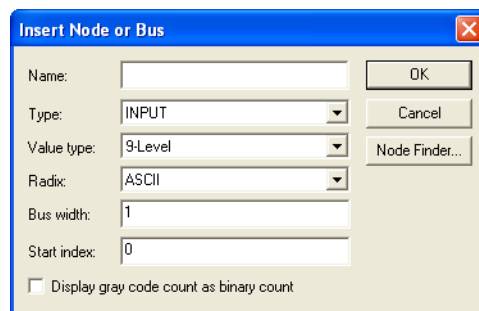
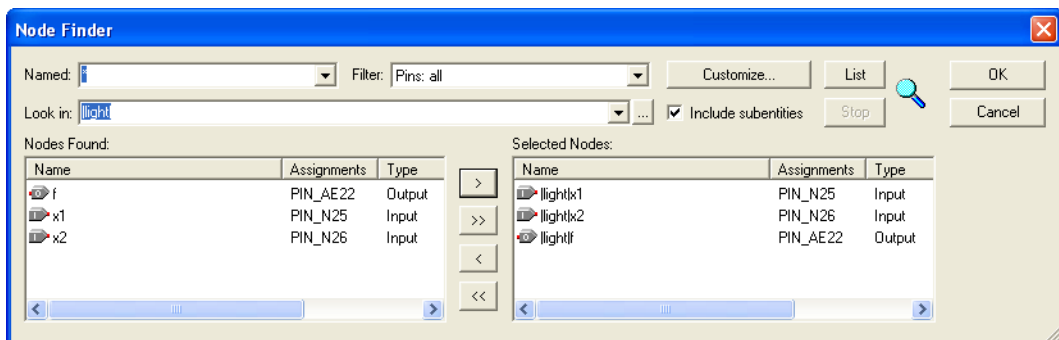
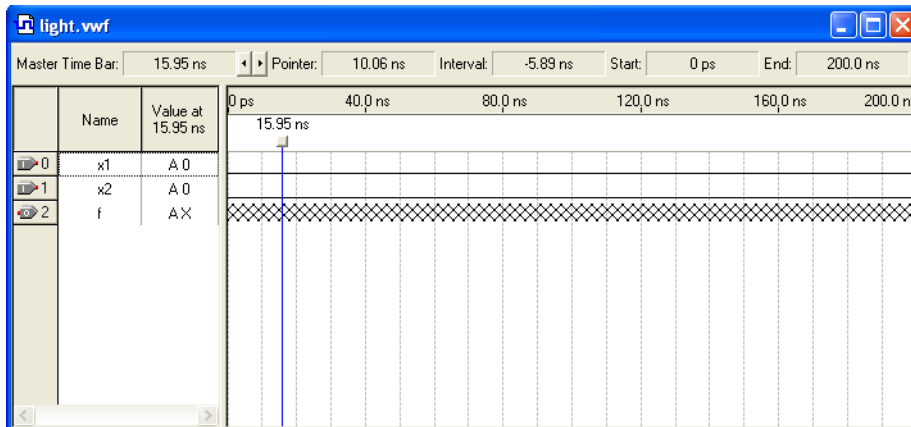

Figure 31. The Insert Node or Bus dialogue.
Figure 32. Selecting nodes to insert into the Waveform Editor.
Figure 33. The nodes needed for simulation.
- Next, we want to include the input and output nodes of the circuit to be simulated. Click **Edit > Insert > Insert Node or Bus** to open the window in Figure 31. It is possible to type the name of a signal (pin) into the Name box, but it is easier to click on the button labeled **Node Finder** to open the window in Figure 32. The Node Finder utility has a filter used to indicate what type of nodes are to be found. Since we are interested in input and output pins, set the filter to **Pins: all**. Click the **List** button to find the input and output nodes as indicated on the left side of the figure.
Click on the *x1* signal in the Nodes Found box in Figure 32, and then click the **>** sign to add it to the Selected Nodes box on the right side of the figure. Do the same for *x2* and *f*. Click **OK** to close the Node Finder window, and then click **OK** in the window of Figure 31. This leaves a fully displayed Waveform Editor window, as shown in Figure 33. If you did not select the nodes in the same order as displayed in Figure 33, it is possible to rearrange them. To move a waveform up or down in the Waveform Editor window, click on the node name (in the Name column) and release the mouse button. The waveform is now highlighted to show the selection. Click again on the waveform and drag it up or down in the Waveform Editor.